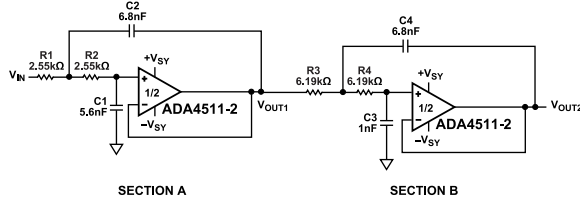

Figure 82. 4-Pole Low-Pass Filter with  $-3 \text{ dB}$  Bandwidth of  $10 \text{ kHz}$
The high-input impedance, high bandwidth, low-input bias current, and DC precision make the ADA4511-2 a good fit for active filter applications. Figure 82 shows the ADA4511-2 in a 4-pole Sallen-Key Butterworth low-pass filter configuration. The 4-pole low-pass filter has two complex conjugate pole pairs and is implemented by cascading two 2-pole low-pass filters. Section A and B are configured as 2-pole low-pass filters in unity gain. Table 7 shows the quality factor (Q) requirement and pole position associated with each stage of the Butterworth filter. For pole locations on the s plane and Q requirements for filters of a different order, refer to the Chapter 8, Analog Filters, in the Linear Circuit Design Handbook, available at [www.analog.com/AnalogDialogue](http://www.analog.com/AnalogDialogue).